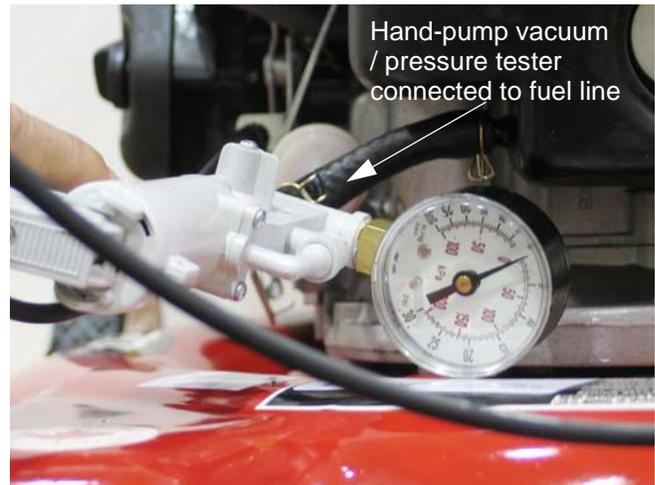

Figure 4.7
2. Attach a hand-pumped vacuum/pressure tester to the fuel barb on the fuel tank. See Figure 4.7.